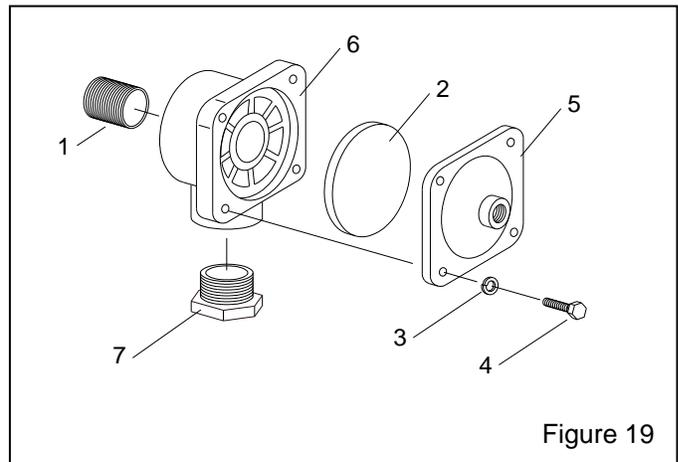

Figure 19
9.4 1" Diaphragm Outlet Valve, Figure 19